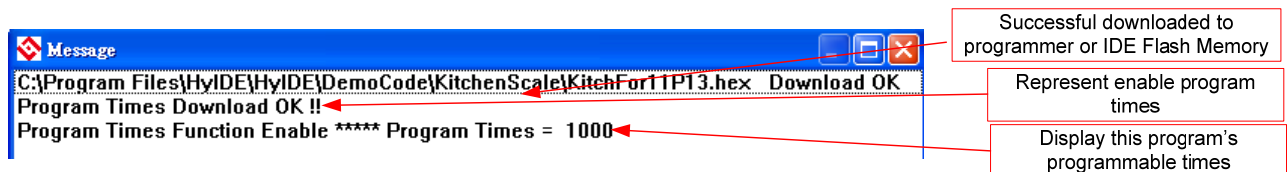

Figure 4-9
2. If there is programming times in the assemble option, information column will display the times of programming times as shown in Figure 4-9.